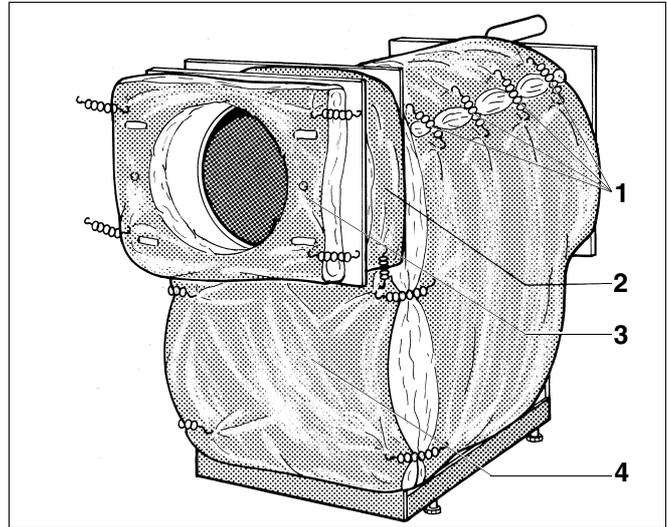

Fig. 5 Fit the thermal insulation
- Overlap the thermal insulation mats around the boiler body and secure with four spring hooks (Fig. 5, **item 1**).
- Hook the front panel thermal insulation with its slots (Fig. 5, **item 3**) into the hinge eyes.
- Locate the lower front panel thermal insulation (Fig. 5, **item 4**) and secure with four spring hooks on the surrounding thermal insulation.
- Locate the thermal insulation strip (Fig. 5, **item 2**) at the top around the boiler shell ring, and secure to the r.h. and l.h. side of the lower thermal insulation mat with two spring hooks respectively.
- Locate the upper front panel thermal insulation (Fig. 5, **item 3**) and secure with four spring hooks on the thermal insulation strip (Fig. 5, **item 2**).